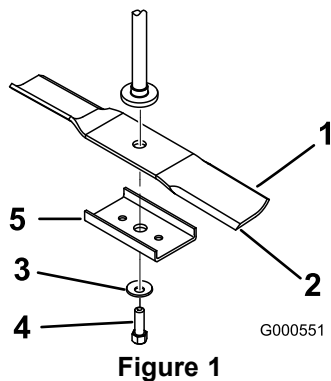

Figure 1
Hold the blade end using a rag or thickly-padded glove. Remove the blade bolt, curved washer, blade stiffener and blade from the spindle shaft (Figure 1).
1. Install the blade onto the spindle shaft (Figure 1).
2. Install the blade stiffener, curved washer (cupped side toward the blade) and the blade bolt (Figure 1).